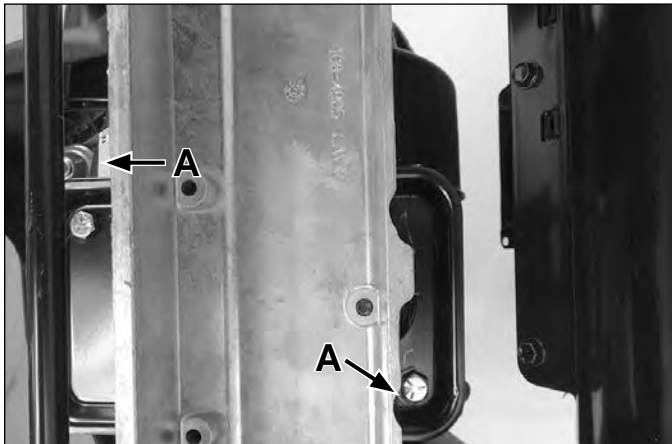

Fig. 020
2. From the underside of the chassis, install the two engine mounting bolts (A). Torque to 14-18 ft-lbs (19-25 Nm) (Fig. 020).